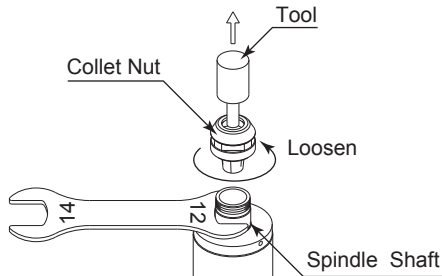

Fig. 5
- ① Remove the tool according to the section " 7. CHANGING THE TOOL " procedure above and remove collet nut assembly. (Fig. 5)